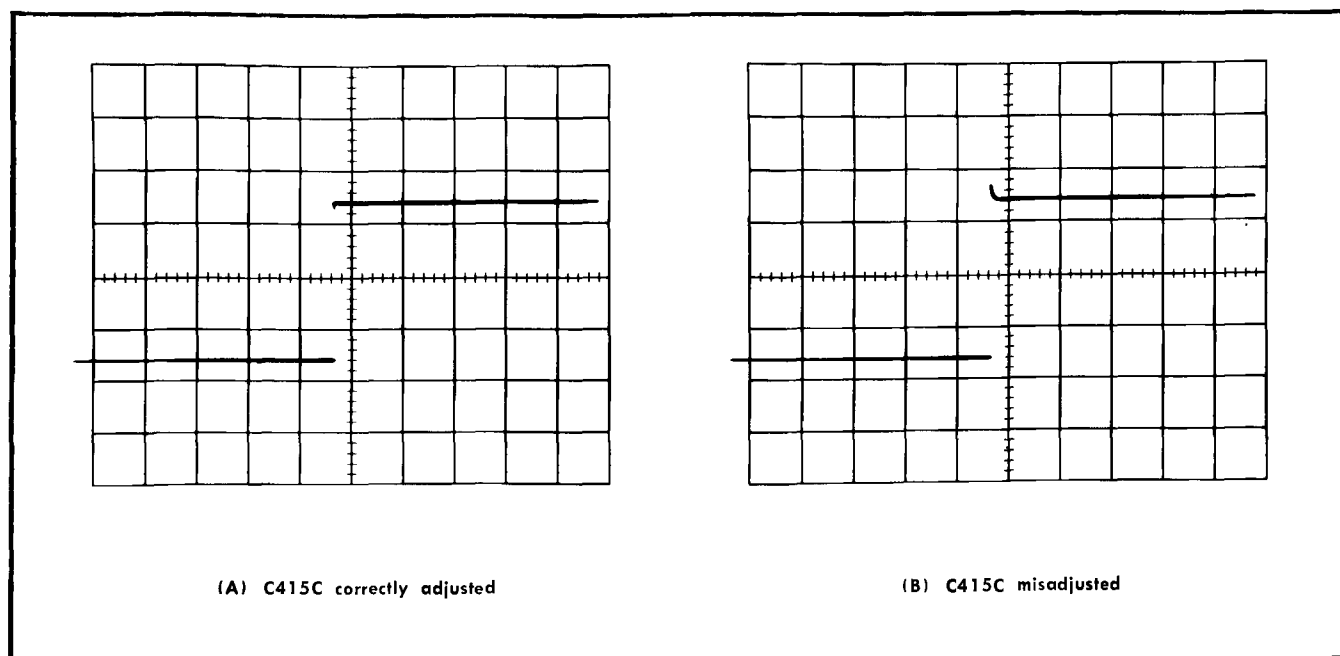

Fig. 6-16. Typical displays, Vertical Amplifier attenuator compensation adjustments; 1 kHz square-wave input; sweep speed, 2 milliseconds/cm.
f. Check—Optimum square-wave with flat top (see Fig. 6-16 A and B for typical displays).
- p. Check—Optimum flat top on square-wave display as in Fig. 6-16 (B).